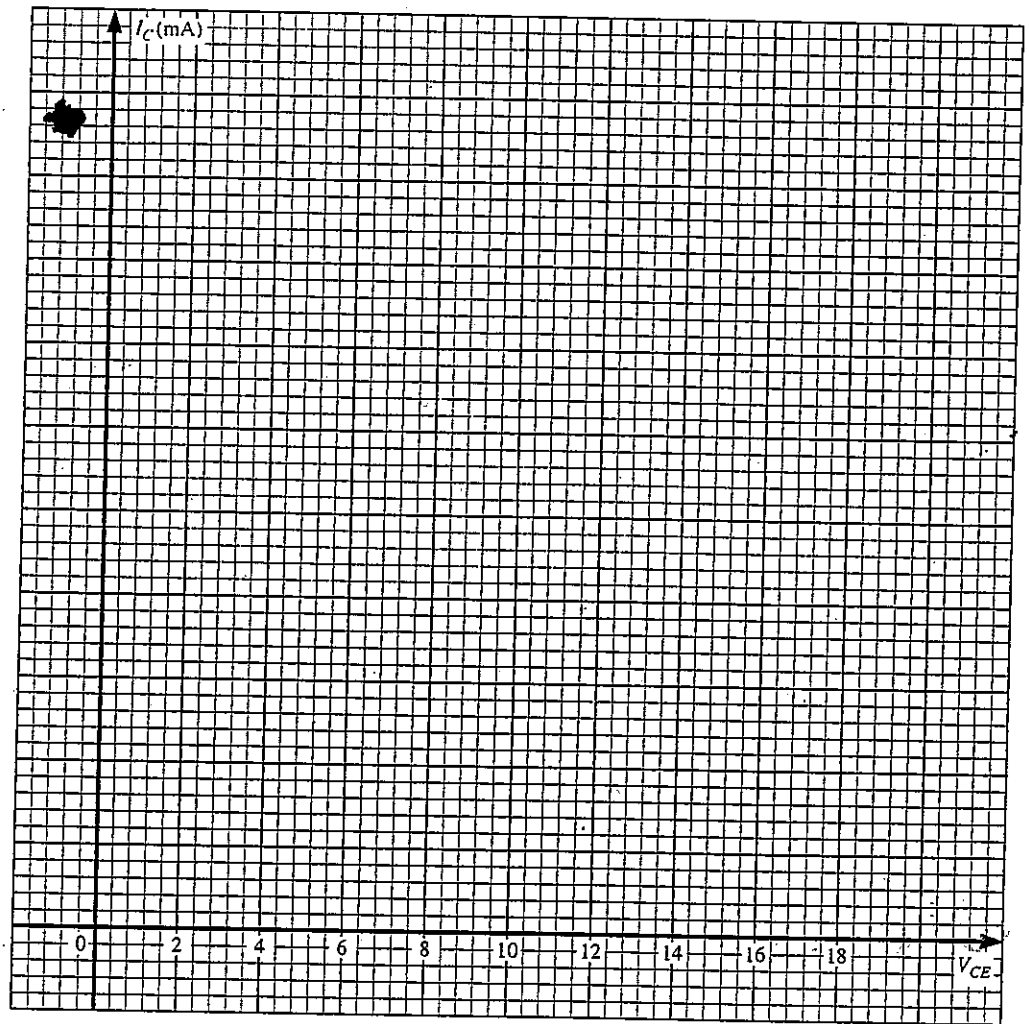

Figure 8-3 Characteristic curves from the experimental data of Part 2.
- i. Using the data of Table 8.3, plot the collector characteristics of the transistor on the graph of Fig. 8.3. That is, plot I_C versus V_{CE} for the various values of I_B . Choose an appropriate scale for I_C and label each I_B curve.
- c. Find the largest and smallest levels of β and mark their locations on the plot of Fig. 8.3 using the notations β_{\max} and β_{\min} .
- a. If available, use a curve tracer to obtain a set of collector characteristics for the 2N3904 transistor. Use the 10 μA step function for I_B and choose a scale for V_{CE} and I_C that matches the scales appearing in the plot of Fig. 8.3.